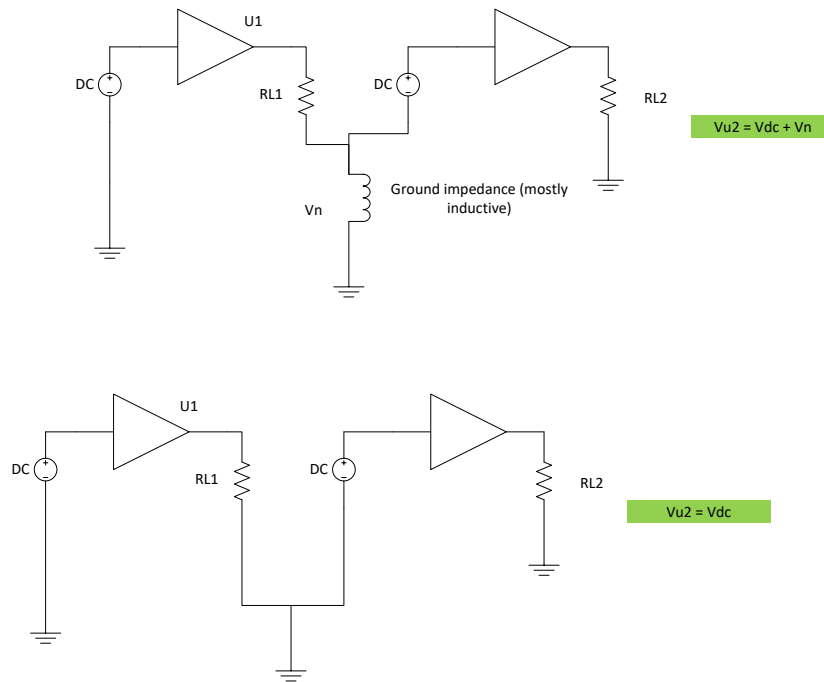

Fig 1
- Make sure that common return paths for currents are avoided to a maximum degree. The issue is that a noise voltage can develop at a victim simply because two elements share the same ground impedance. This is illustrated in the circuits of Fig 1 and could be caused by a common ground track for both amplifiers in the first circuit, as opposed to both amplifiers connecting to the same ground point at the entry to the PCBA in question, as is the case for the second circuit.